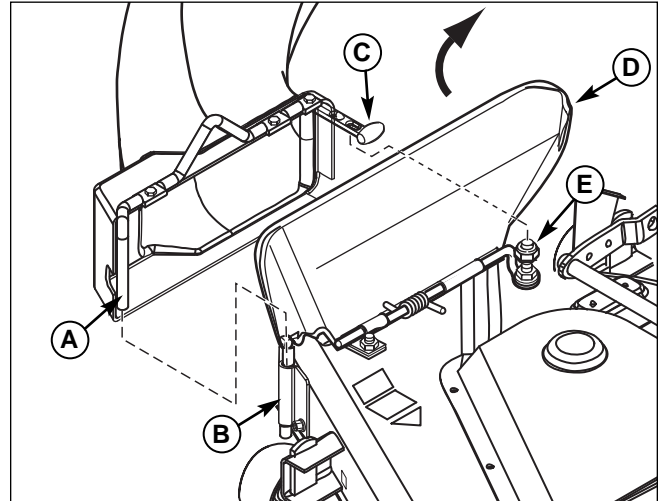

Figure 14. Install Lower Discharge Chute
1. Lift discharge deflector up (D, Figure 14).
2. Insert lower chute rod (A) into mounting plate (B).
3. Pull rubber strap (C) and secure by placing hole closest to knob in strap completely over locknut (E).